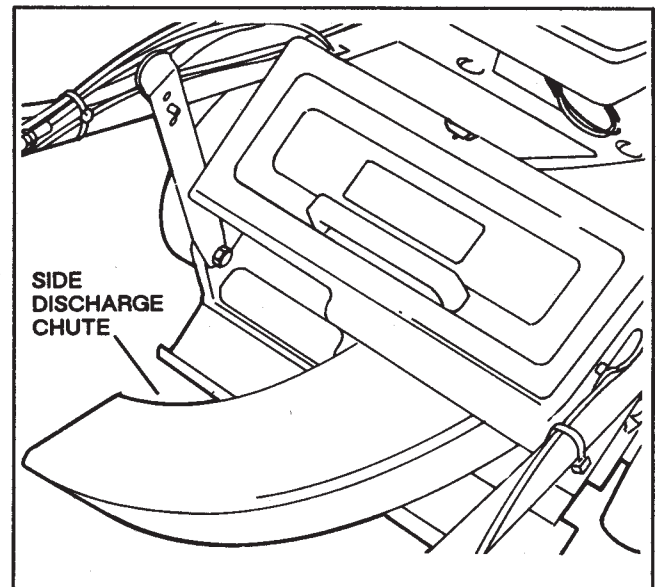

Figure 3
3. Close door, allowing it to rest on top of chute (Fig.3).